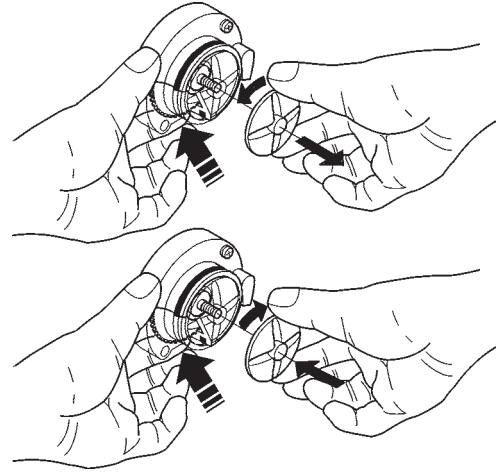

Fig. 10
- in order to remove the wheels, block the disk fitted on the mixer shaft with a finger (see Fig. 10), then rotate the wheel to undo it.